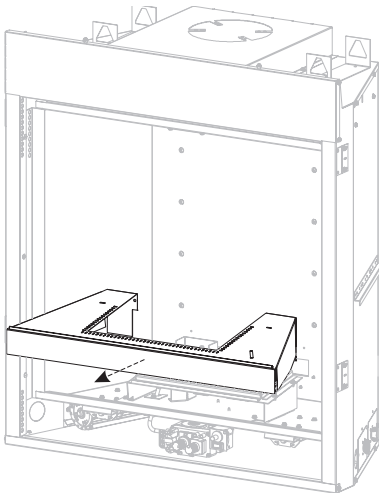

Figure 8
5. Remove burner cover by lifting off. See Figure 8.
18. Replace burner cover removed in step 5. **See Figure 8.**